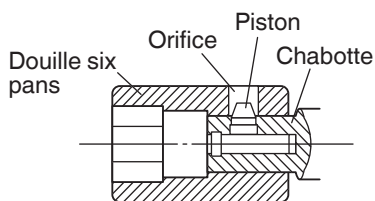

Fig. 3
(1) WR22SE: Type piston (Fig. 3)